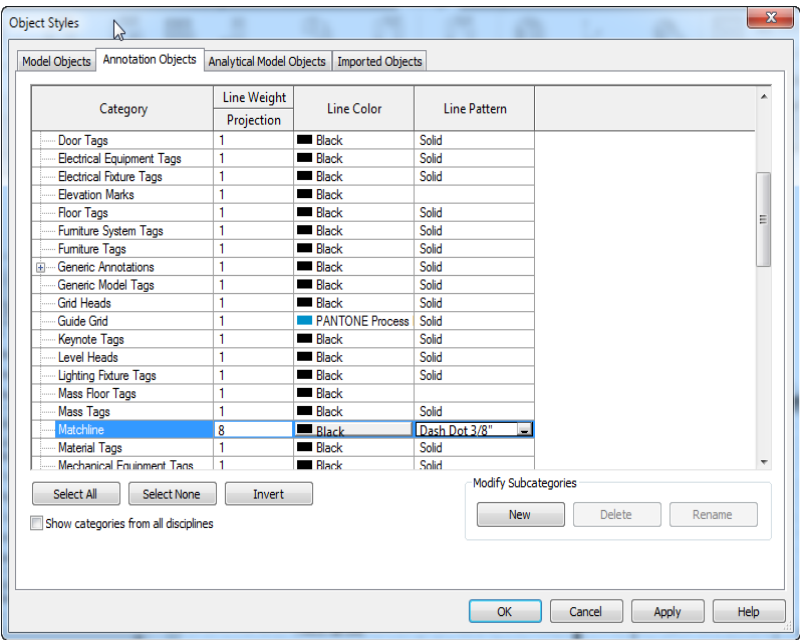

FIGURE 13.11: Changing the Matchline line pattern to Dash Dot 3/8"
- 2. Click the Annotation Objects tab, as shown in Figure 13.11.
- 5. You see a menu arrow. Click it, and select Dash Dot 3/8" (10mm) (see Figure 13.11).